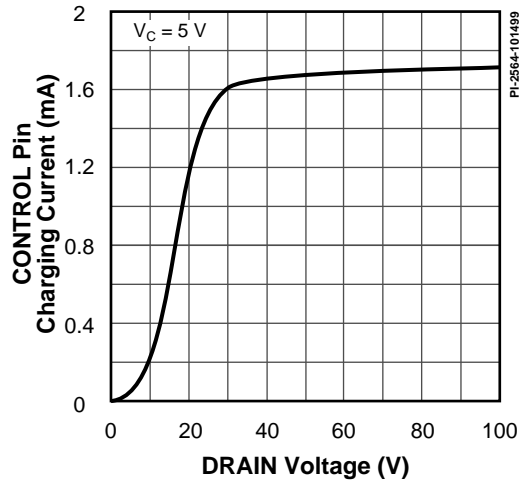

Figure 66. I_C vs. Drain Voltage.
- D. It is possible to start up and operate *TOPSwitch-GX* at DRAIN voltages well below 36 V. However, the CONTROL pin charging current is reduced, which affects start-up time, auto-restart frequency, and auto-restart duty cycle. Refer to Figure 66, the characteristic graph on CONTROL pin charge current (I_C) vs. DRAIN voltage for low voltage operation characteristics.